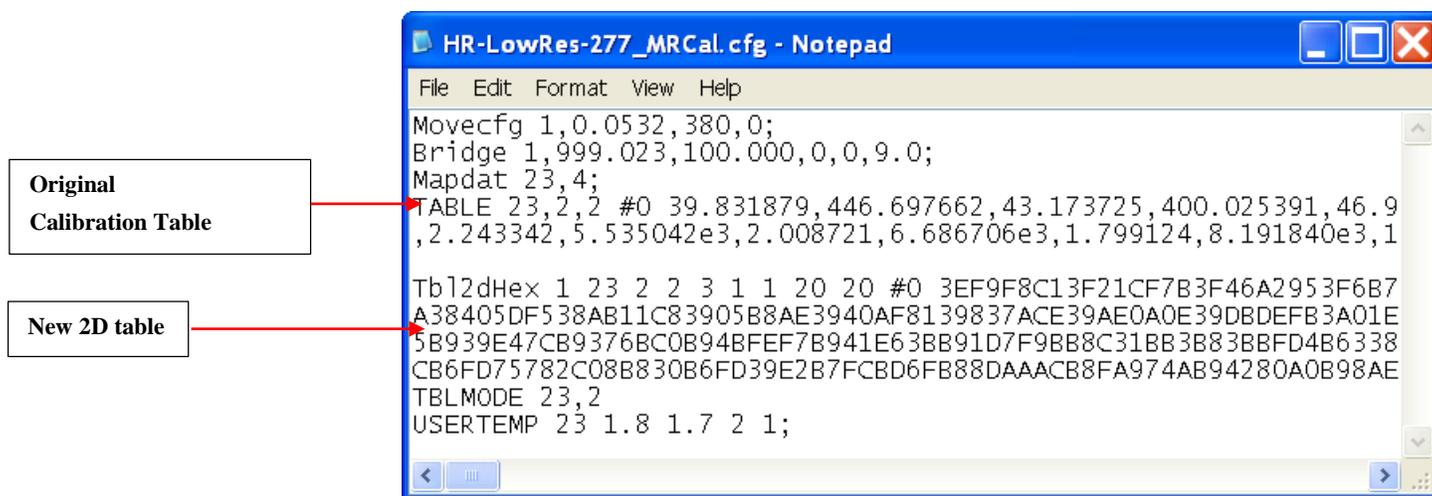

Figure 15: Updated Rotator Configuration file with new MR Calibrated 2D table.
- Copy the 2D table from the configuration file and paste in the rotator *.cfg file (\\QdPpms\HR-XXX\Configuration) under the original thermometer calibration table. Ensure to also include the command: TBLMODE 23,2 when copying the table over to the rotator configuration file and remove the original command TBLMODE 23,1 (Figure 15). This command will activate the 2D table on channel 23.